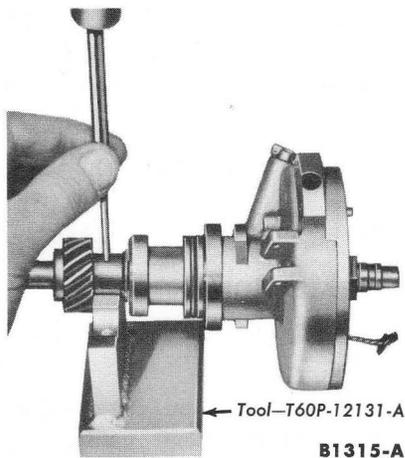

FIG. 3—Gear Pin Removal
8. Remove the distributor from the vise. Remove the distributor cap clamps. If a solid-type drive gear pin is used, file the peened end from the pin. Drive out the pin with a punch (Fig. 3).